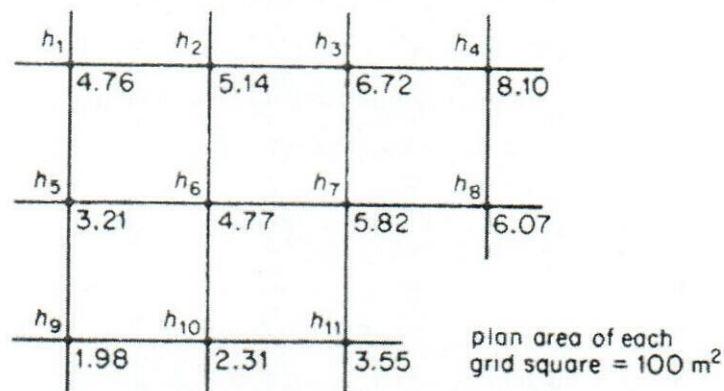

Figure Q5
- (b) Figure Q5 shows 10 m square grids with reduced levels marked at each grid intersection.